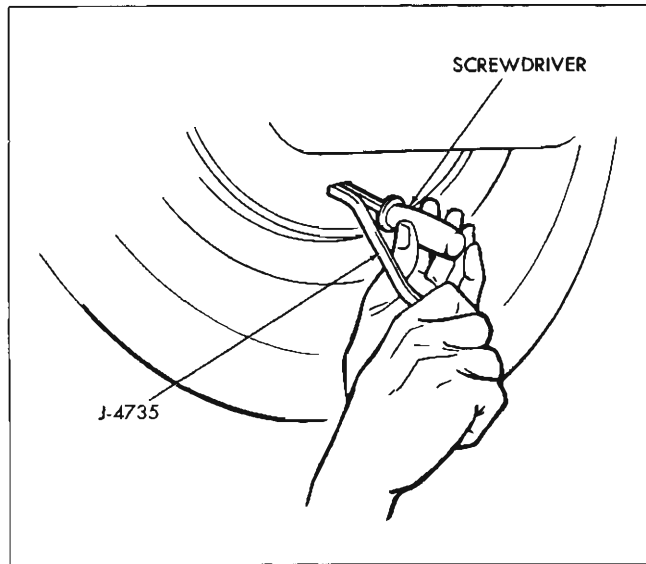

Fig. 5-11 Preparing to Back Off Adjusting Screw
**NOTE:** It may be necessary to back off the brake shoe adjustment before the brake drums can be removed. To back off shoe adjustment insert a small rod or screwdriver through the adjusting screw slot in the backing plate and hold automatic adjuster lever away from adjusting screw star wheel and rotate adjusting screw upward (Figs. 5-11 and 5-12).